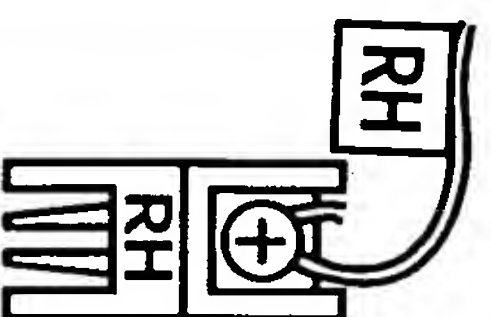

FIGURE 4
- Match and connect the labeled wires to the appropriate coded terminal screws on the mounting plate. (See Figure 4, 5.) Ignore any wires which may be present, but which were not connected to the old thermostat.